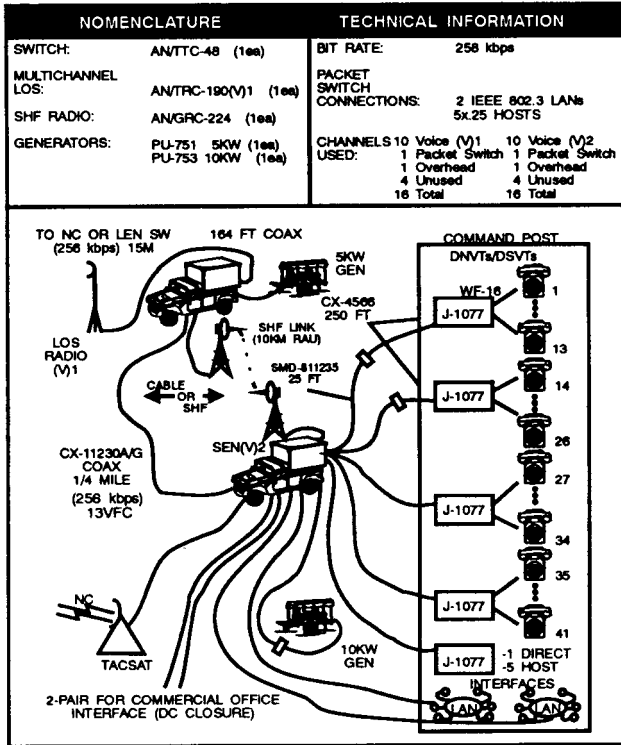

Figure 3-7. Typical SEN configuration.
**General.** The SEN has two assemblages, the SEN switch and its supporting multichannel LOS radio terminal. The SEN provides ACUS access to smaller units such as battalion or brigade CPs. Currently, there are five different models of the SEN switch. (See Table 3-3.) The AN/TTC-48A(V)2 is used at EAC. The four remaining models are AN/TTC-48(C)1, 2, 3, and 4. The two configurations of the SEN are: the SEN(V)1 services 26 subscribers and the SEN(V)2 services 41. See Figure 3-7.